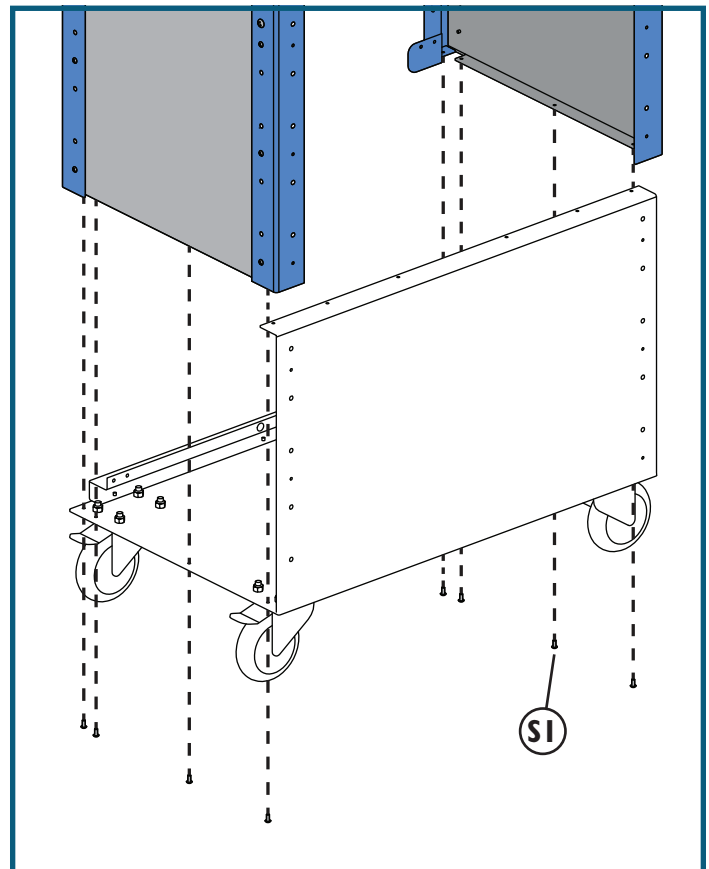

Fig. 7
8. Fit the Left and Right Side Panel Assemblies in place on the Cabinet Bottom (1), with the Back Panel (14) in between. Attach each Side Panel Assembly to the Cabinet Bottom with three M4 x 3/8" Pan-Head Self-Tapping Screws (S1) driven up through the Cabinet Bottom and into the bottom flanges of the Left and Right Side Panels (10 and 12) and one M4 x 3/8" Pan-Head Self-Tapping Screw into each of the Left and Right Front Corner Brackets (9 and 11). **Fig. 7.**